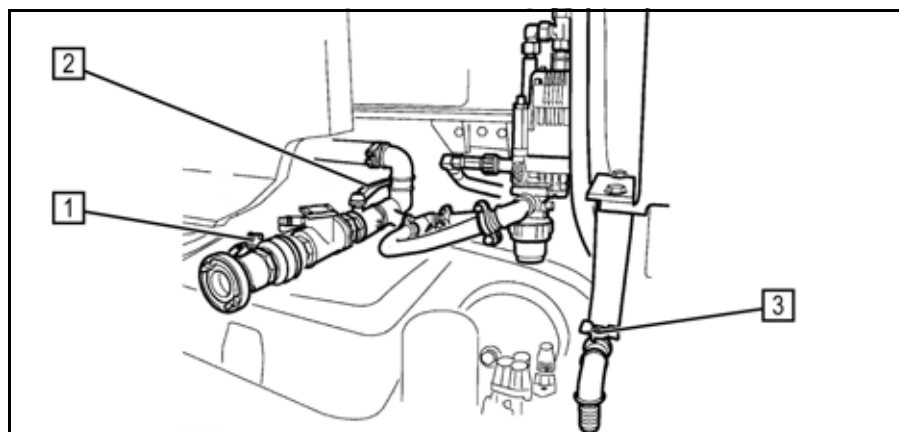

Fig. 45
- Close the locking slide in the suction pipe of the water pump (2) (Fig. 45)!
- Connect the "C" hose to the coupling and open the locking slide (1) (Fig. 45).